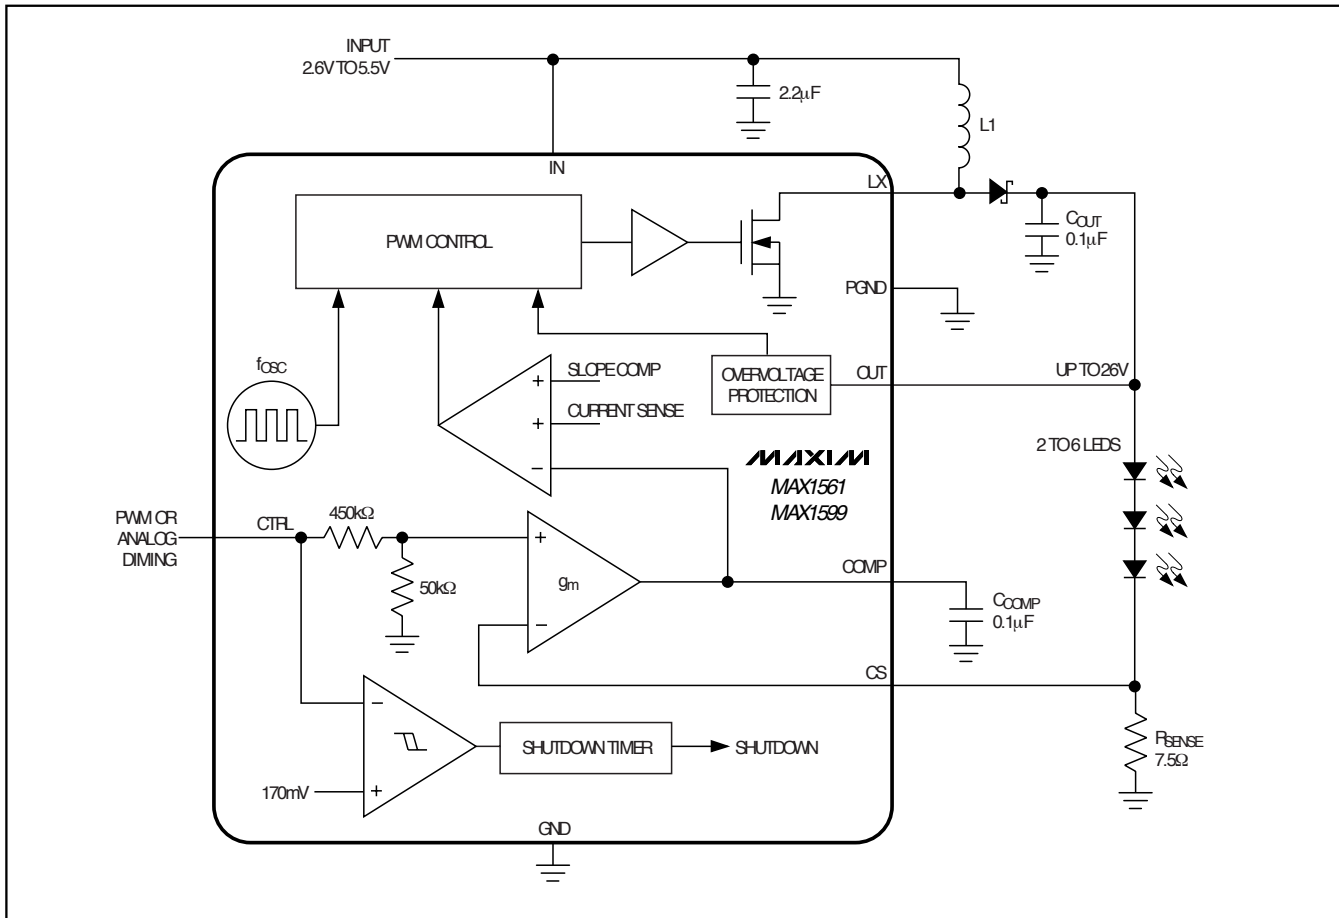

Figure 1. Functional Diagram
( $V_{IN} = 3V$ ,  $V_{OUT} = 20V$ ,  $C_{OUT} = 0.1\mu F$ ,  $C_{COMP} = 0.15\mu F$ ,  $R_{SENSE} = 7.5\Omega$ ,  $V_{CTRL} = 1.5V$ , Figure 1,  $T_A = 0^\circ C$  to  $+85^\circ C$ , unless otherwise noted. Typical values are at  $T_A = +25^\circ C$ .)
( $V_{IN} = 3V$ ,  $V_{OUT} = 20V$ ,  $C_{OUT} = 0.1\mu F$ ,  $C_{COMP} = 0.15\mu F$ ,  $R_{SENSE} = 7.5\Omega$ ,  $V_{CTRL} = 1.5V$ , Figure 1,  $T_A = -40^\circ C$  to  $+85^\circ C$ , unless otherwise noted.) (Note 3)
**Note 1:**  $V_{D1}$  is the diode forward-voltage drop of diode D1 in Figure 1.
(Circuit of Figure 1,  $V_{IN} = 3.6V$ ,  $I_{LED} = 15mA$ ,  $L1 = 22\mu H$ ,  $C_{IN} = 2.2\mu F$ ,  $C_{OUT} = 0.1\mu F$ ,  $C_{COMP} = 0.1\mu F$ ,  $R_{SENSE} = 7.5\Omega$ , 4 LEDs,  $T_A = +25^\circ C$ , unless otherwise noted.)